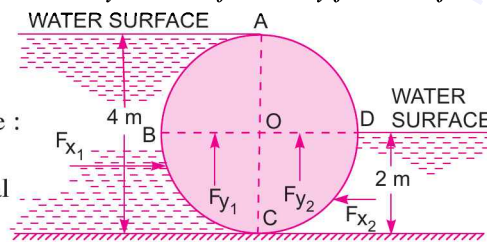

Fig. 3.34
**Problem 3.27** A cylindrical gate of 4 m diameter 2 m long has water on its both sides as shown in Fig. 3.34. Determine the magnitude, location and direction of the resultant force exerted by the water on the gate. Find also the least weight of the cylinder so that it may not be lifted away from the floor.